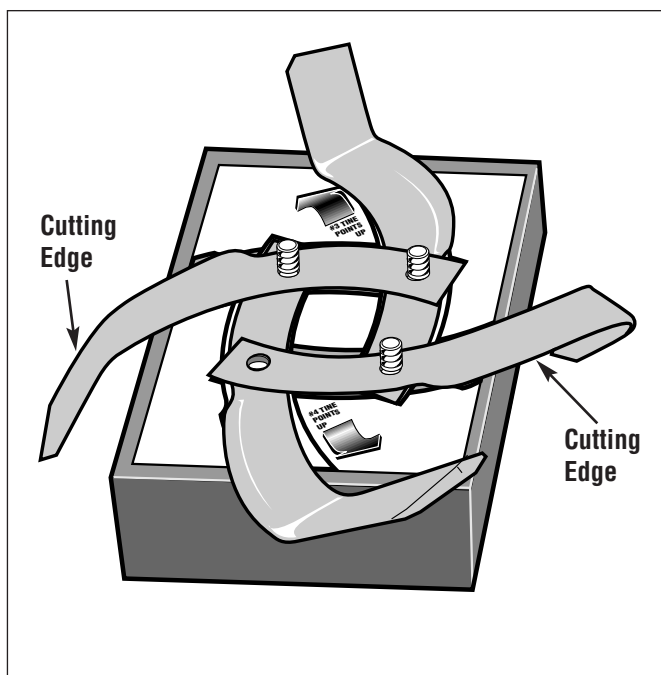

Figure 18: Add lockwashers and nuts to "B" gang.
C. Place three bolts through the holes shown in Figure 18 on Page 10.
D. Place two *left-curved* tines (shown in Figure 18) onto the bolts so that the tines cover the outlines of tines #1 and #2. These tines are **opposite** each other on top of the tines already in place. The tips of these tines point *downward* (overhanging the sides of the box).